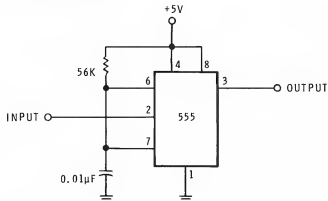

Figure 5-65
26. The circuit shown in Figure 5-65 is a:
27. What is the output pulse duration of the circuit of Figure 5-65?
26. B — The circuit shown in Figure 5-65 is a monostable timer.